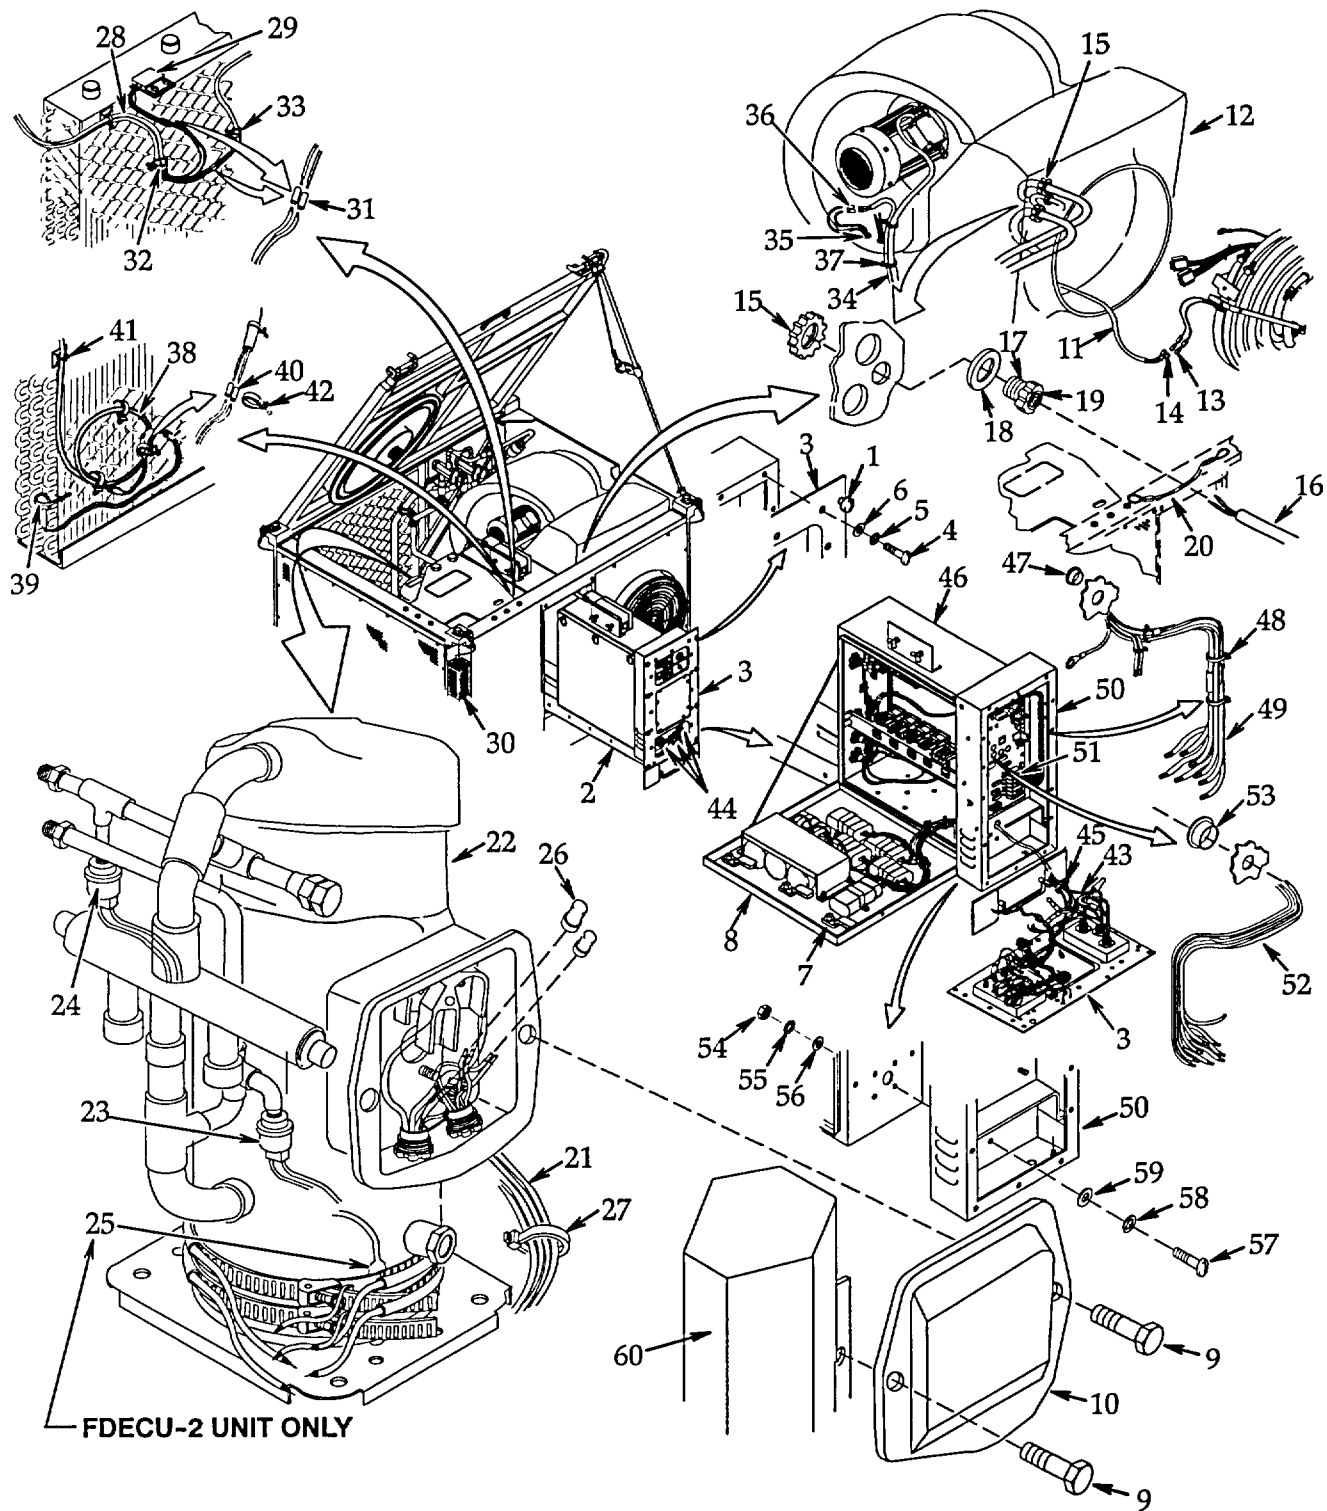

Figure 4-40. Control Box Assembly.
- a. **Removal.** See figure 4-40.
b. Installation. See figure 4-40.
- (1) Support control box panel (3) then remove 16 screws (4), lock washers (5), and flat washers (6). Carefully pull control box panel away as far as wire leads will allow. Discard lock washers.
- (2) Support control box assembly (50) in place then align mounting holes and secure with 11 flat washers (59), lock washers (58), screws (57), flat washers (56), new lock washers (55), and nuts (54).
- (3) Install three grommets (53).